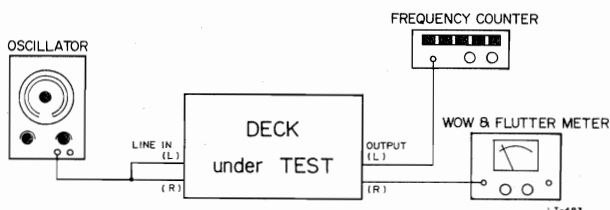

Fig. 7-9 Test Connections for Wow/Flutter and Tape Speed Test
1. Connect Test equipment to the deck as shown in Fig. 7-9 (Except oscillator).
1. Connect Test equipment to the deck as shown in Fig. 7-9